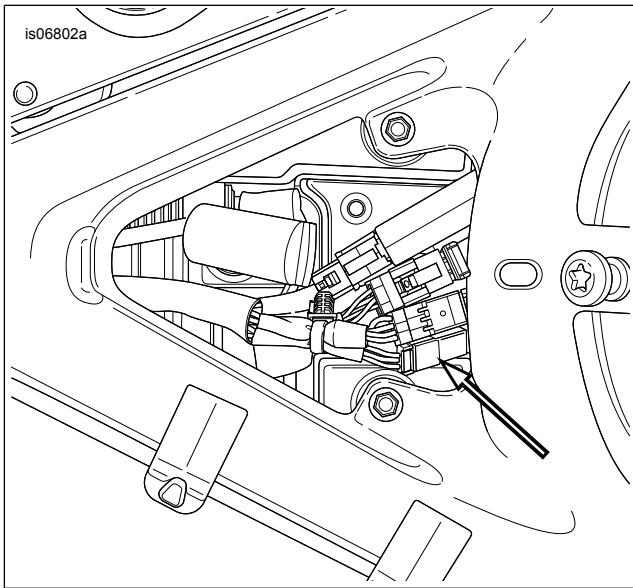

Figure 2. Rear Lighting Harness Connector
1. See Figure 2. Locate and disconnect rear lighting harness connector [40B] from the main wiring harness connector [40A].
2. Connect interconnect harness (3) to rear lighting harness connector [40B] and main wiring harness [40A].